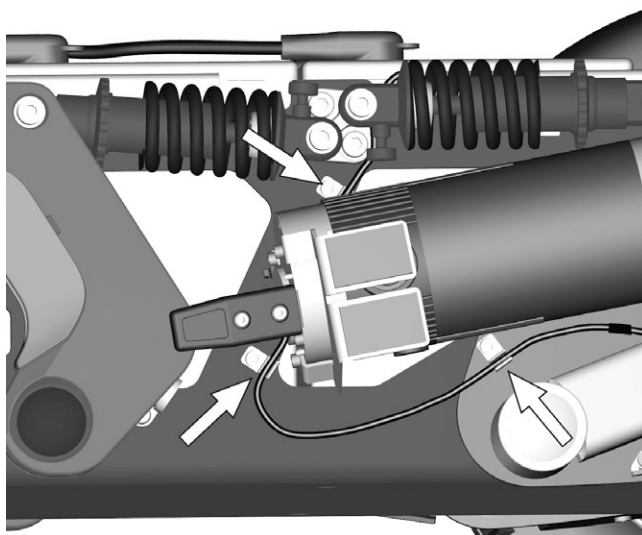

Figure 166. The cable is assembled with three cable brackets on the left and right hand side of the chassis.
7. Assembly the cable to its cable brackets on the left and right hand side of the chassis. See fig. 166.